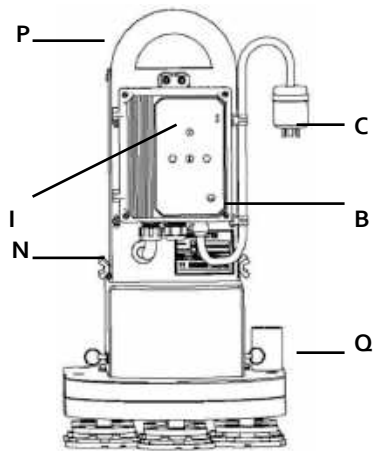
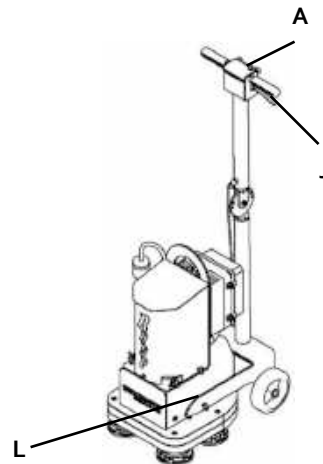
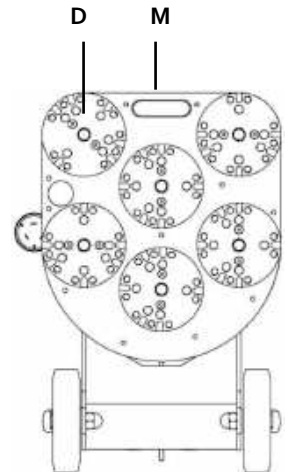

Fig. 1
Fig. 2
Fig. 3
**Machine Controls** The START button (A Fig 2) is on the handle; the SPEED control (B Fig 1) is on the VFD.
1. Unplug the power cord from the twist lock plug (C Fig 1).
2. Ensure the handle is in its full upright position (Fig 2). Tilt the machine back (Fig 3).
5. Return the machine to the upright position (Fig 2).
**Initial Start Sequence** When the machine is first plugged in, a start-up screen (I Fig 1) will flash STOP.
**Starting the Machine** To start the machine, gently squeeze the activation lever (J Fig 5) and press and release the START button (A Fig 2).
**Adjusting the Speed** The speed of the machine can be adjusted when it is running or when it is stopped. To adjust the speed, rotate the speed control knob (B Fig 1) on the VFD clockwise to speed it up, or counterclockwise to slow it down. Always start the machine at the lowest speed and adjust as necessary.
3. Remove the pull pins from each handle arm (L Fig 2) and roll the handle assembly away from the machine.
4. Remove the four thumbscrews (N Fig 1) from the motor mounting assembly.
5. Use the handle (P Fig 1) on the motor mounting assembly to lift the motor mounting assembly straight up until the motor shaft is completely clear of the base.
1. Disconnect power and ensure the handle is in the upright position (Fig 2).
2. Tilt the machine back (Fig 3).